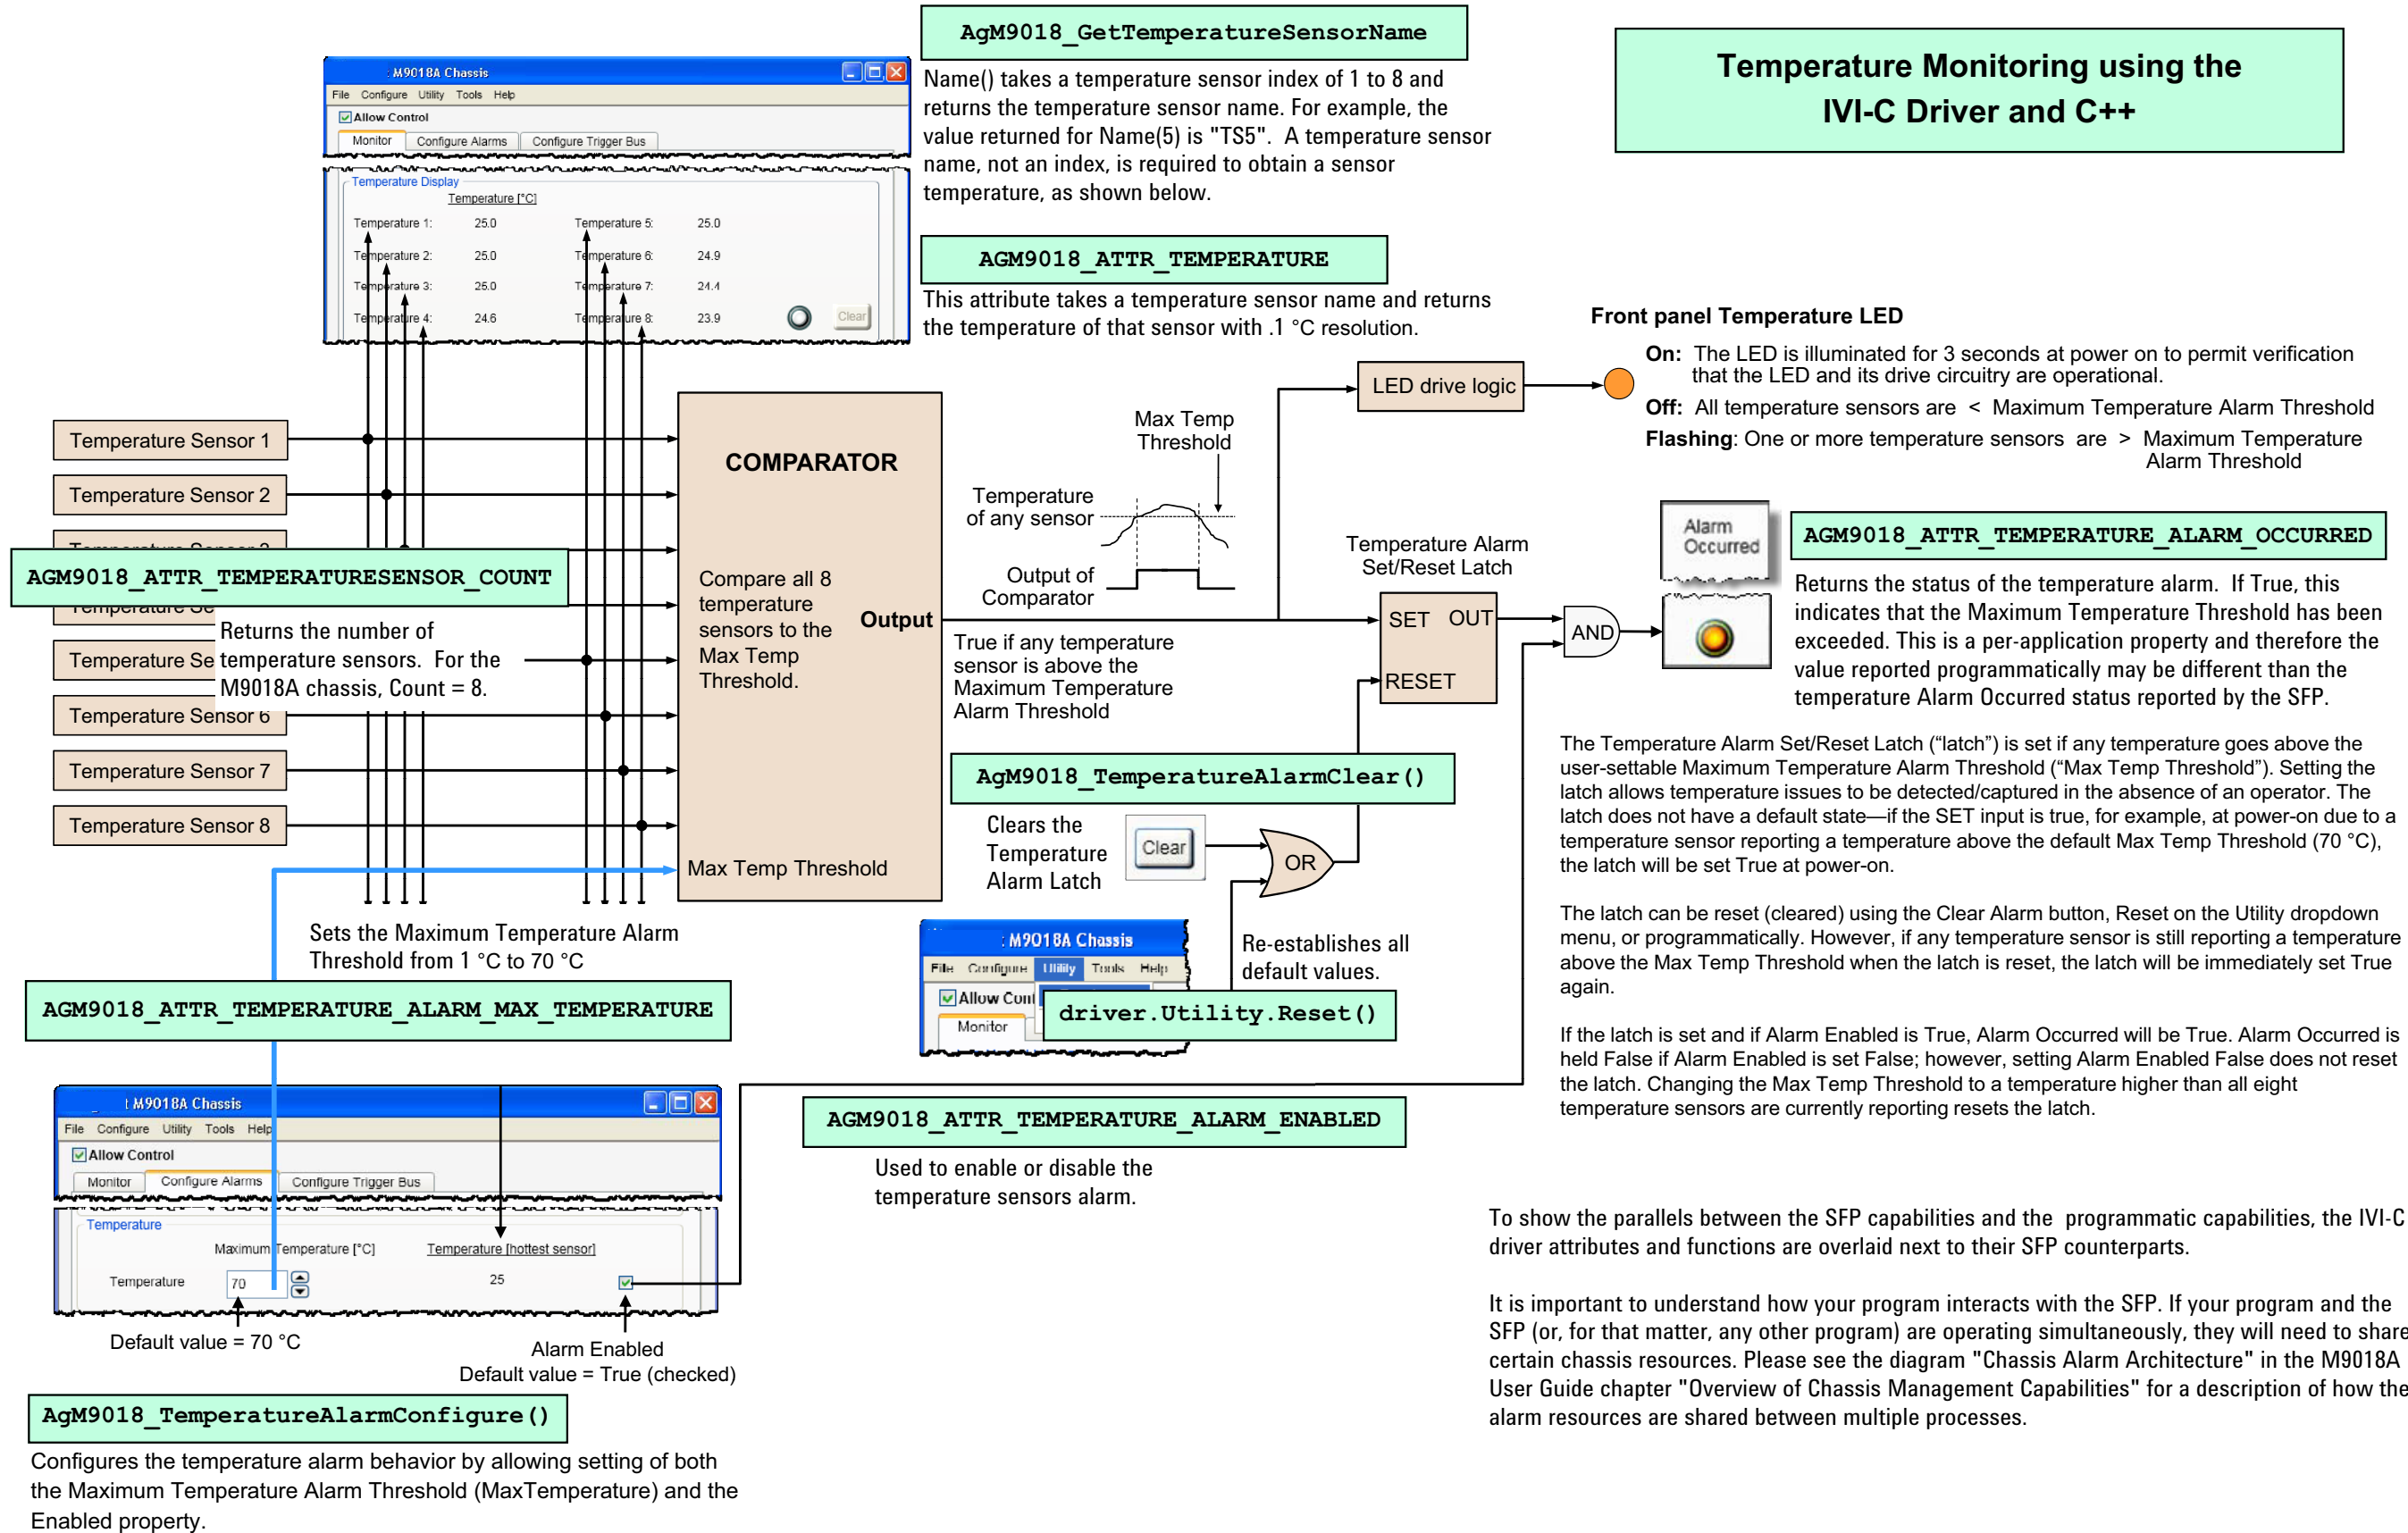

Figure 23 Temperature monitoring using the IVI-C driver and C++
- IVI-C driver and C++ – Figure 23 on page 49